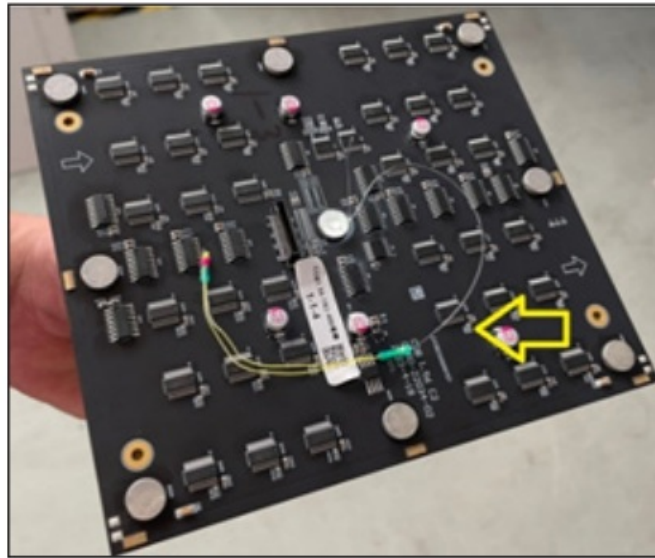

Figure 12: Module Lanyard
2. Remove the modules from the package. The lanyard is already fixed to the module's backside. Refer to Figure 12.